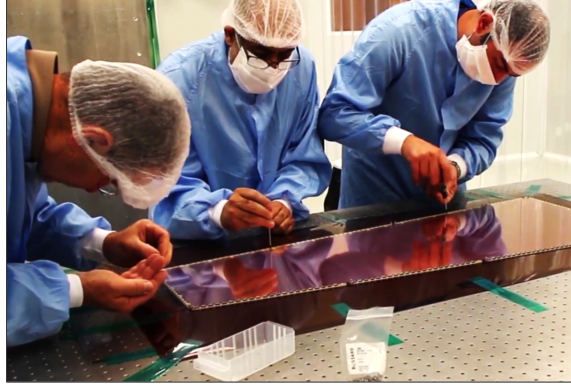

Figure 83: Closing the internal frame (2).
Step 7: Follow the same procedure all around the GEM stack. All the holes should be equipped with M2x6 screws except on the edges of the frames where the longer screws are already fixed (Fig. 83).